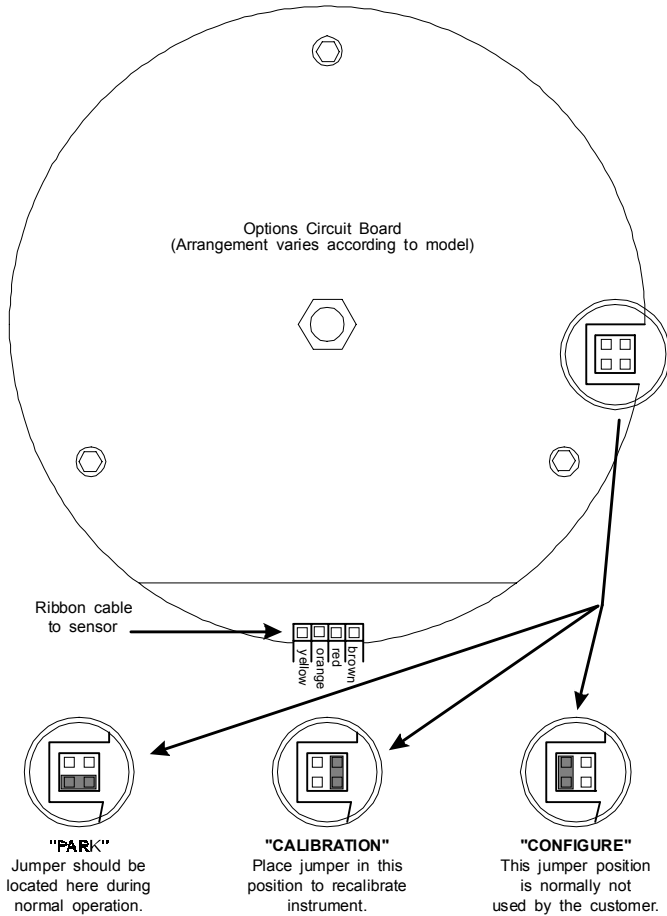

Figure 4-1: Front face panel (rear view), showing mode jumper positions and orientation of sensor cable
Open up the instrument by removing the center screw on the back. Next, remove the front face panel. Take care not to break the wires extending from the sensor to the electronics. As indicated on Figure 4-1, move the mode jumper from the "**park**" position to the "**configure**" position.
After you have finished using the Factory Configuration Menu, the mode jumper must be moved from its "**configure**" position to its "**park**" position as indicated in Figure 4-1. Close the unit up and replace the center screw.
Open up the instrument by removing the center screw on the back. Next, remove the front face panel. Take care not to break the wires extending from the sensor to the electronics. As indicated on Figure 4-1, move the mode jumper from the "**park**" position to the "**calibration**" position.
When the last force point has been entered, the instrument will turn itself off. At this time, the mode jumper must be moved from its "calibration" position to its "park" position as indicated in Figure 4-1. Close the unit up and replace the center screw.
- Verify that the sensor cable is connected correctly. Chapter 4, Figure 4-1 shows the correct orientation of the sensor cable.